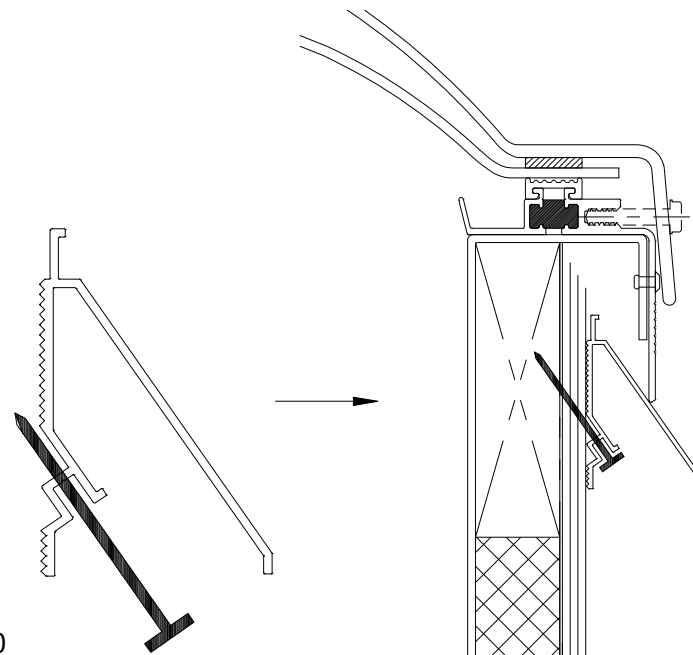

FIGURE 5.0
- If optional roofing material termination bars supplied by the skylight manufacturer are used follow the manufacturer's directions and use all of the skylight manufacturer's predrilled holes for fastening the termination bars to the curb (See Figure 5.0).